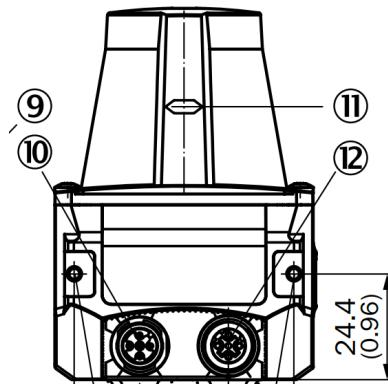
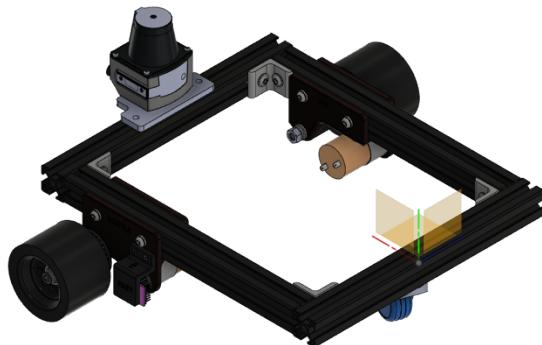

Figure 3-Lidar Back View
Figure 4-SCUTTLE
6. Connect the Lidar Power cable to the Power/Synchronization connection (10) as shown in Figure 3. Finally plug the Lidar to the SCUTTLE battery pack, you should hear the little DC motor inside the device spinning and a red light on the front panel of the Lidar, which after a couple of second should turn green to indicate the Lidar is ready. Figure 4 shows where should the Lidar be located on the frame of the SCUTTLE.
Modify your L3 script to output  $d_x$  and  $d_y$  to your closest obstacle instead of  $d$  to your NodeRed GUI. Keep in mind that the L2\_vector.py is returning the  $d$  and  $\alpha$ . Refer to Figure 4. Submit your L3 script and NodeRed Flow to the ecampus submission boxes and include them at the end of your lab report. Make sure to write comments to your code.